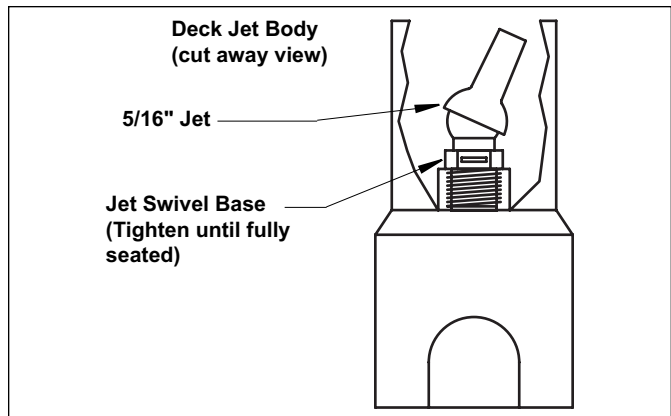

Figure 6. Snap Jet Onto Jet Swivel Base
9. Place the Jet onto the Jet Swivel Base. Push, by hand, until the Jet snaps over the Jet Swivel Base. (it may be easier to lean the Jet to one side of the Deck Jet Body and push). **DO NOT use any tools to install the Jet** (see Figure 6).